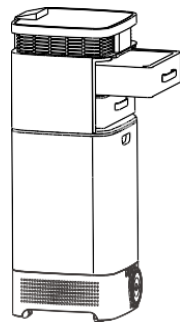

Figure 2
10.5 The humidification module will be removed from the machine (Figure 2).